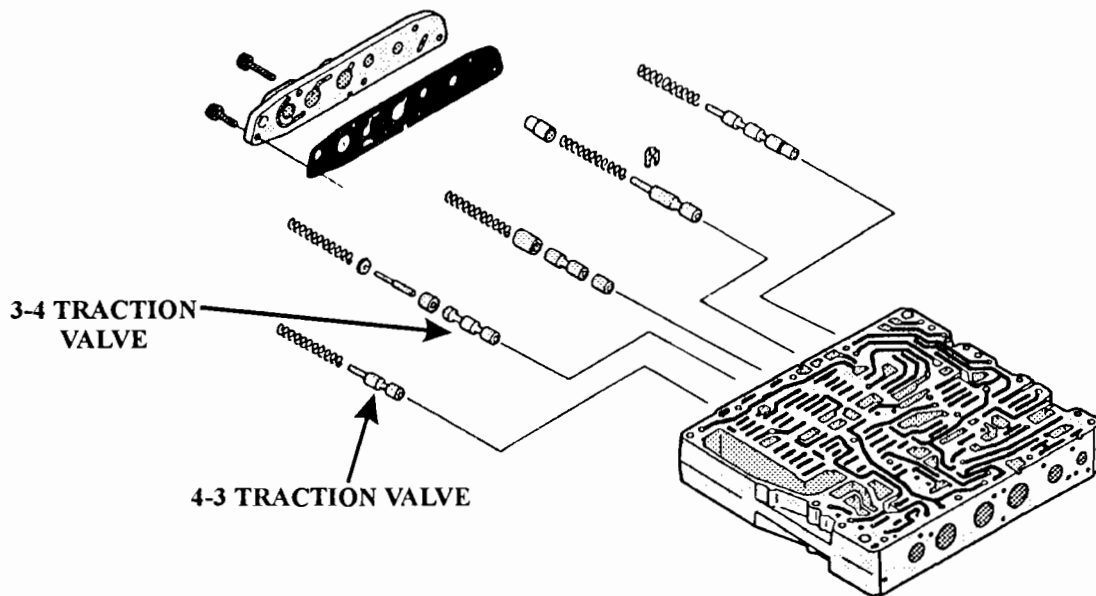

Figure 64
**CAUSE:** One cause may be that either the 3-4 or 4-3 traction valve in the valve body has stuck in a stroked position preventing forward clutch apply (See Figure 64).